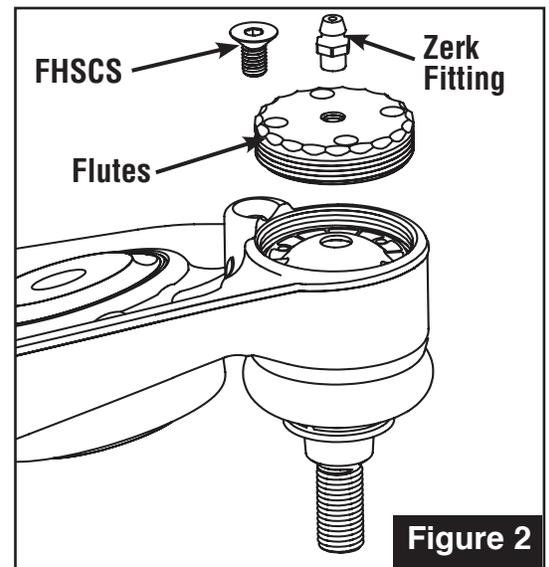

Figure 2
- TECH TIP: Apply heat to FHSCS and retainer cap to loosen Loctite and aid in removing screw without damage, see Figure 2.**